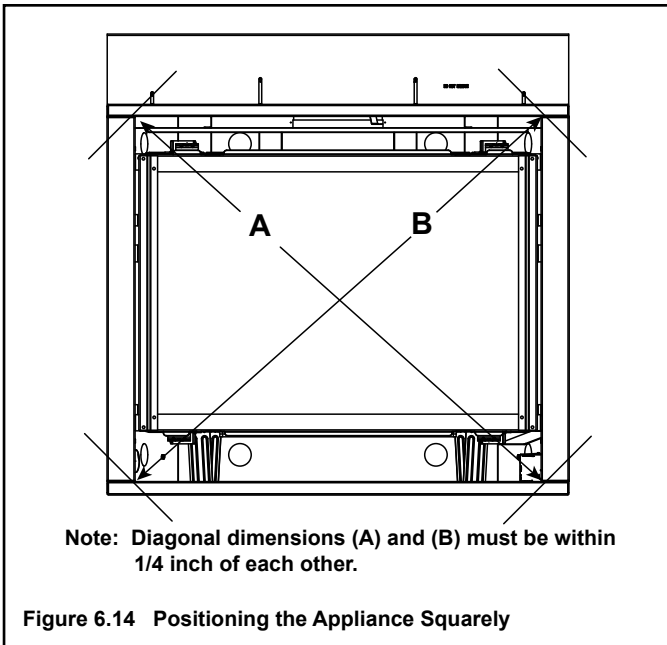

Figure 6.14 Positioning the Appliance Squarely
The diagram shows how to properly position and secure the appliance. See Figure 6.14. Nailing tabs are provided to secure the appliance to the framing members.
- “Square” the unit by securing diagonal dimensions to within 1/4 inch of each other. See Figure 6.14.